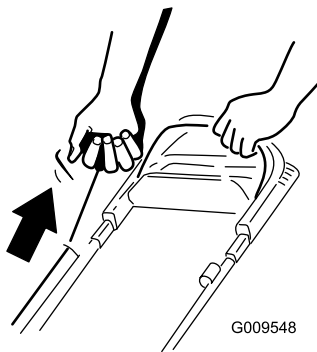

Figure 18
2. Pull the recoil-start handle (Figure 18).
Note: When you pull the recoil-start handle, pull it lightly until you feel resistance, then pull it sharply (Figure 18). Allow the rope to return to the handle slowly.